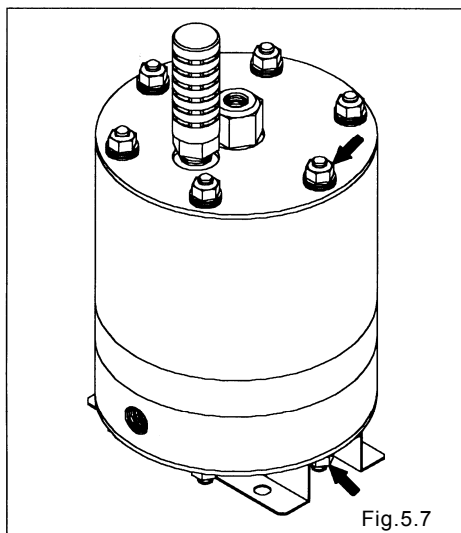

Fig.5.7
- Torque nuts (tie rods) diagonally for uniform force. (Fig.5.7 shows the AD-10TT.)